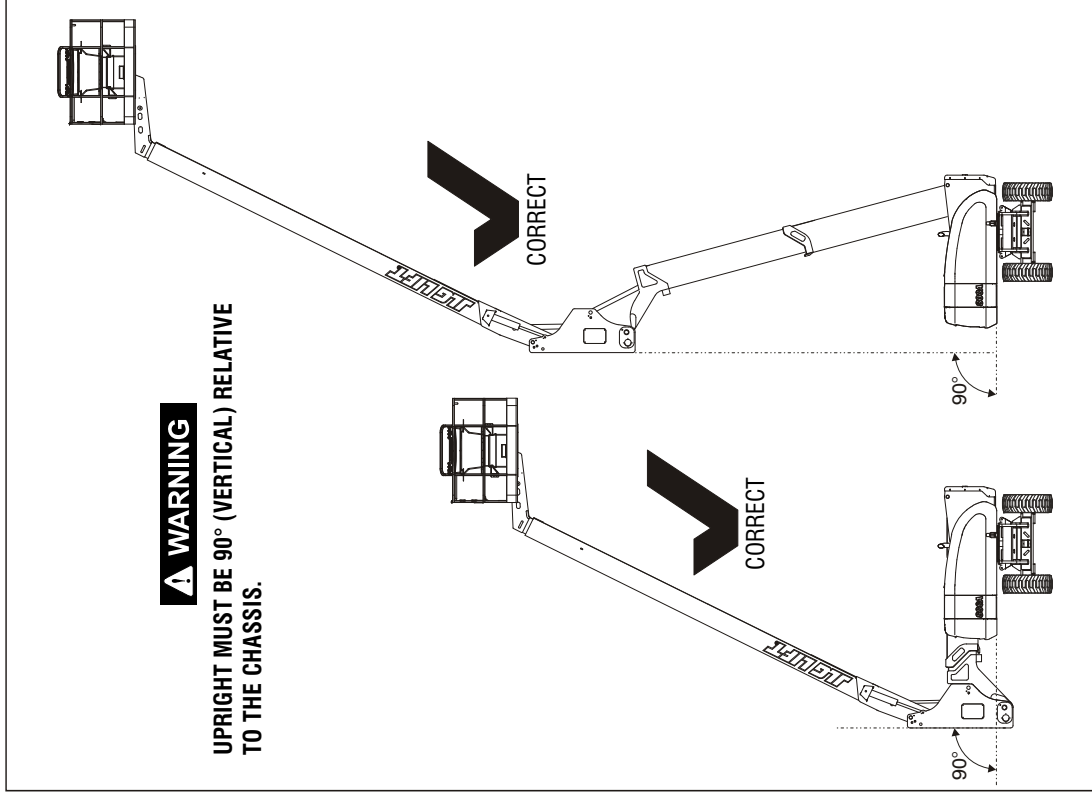
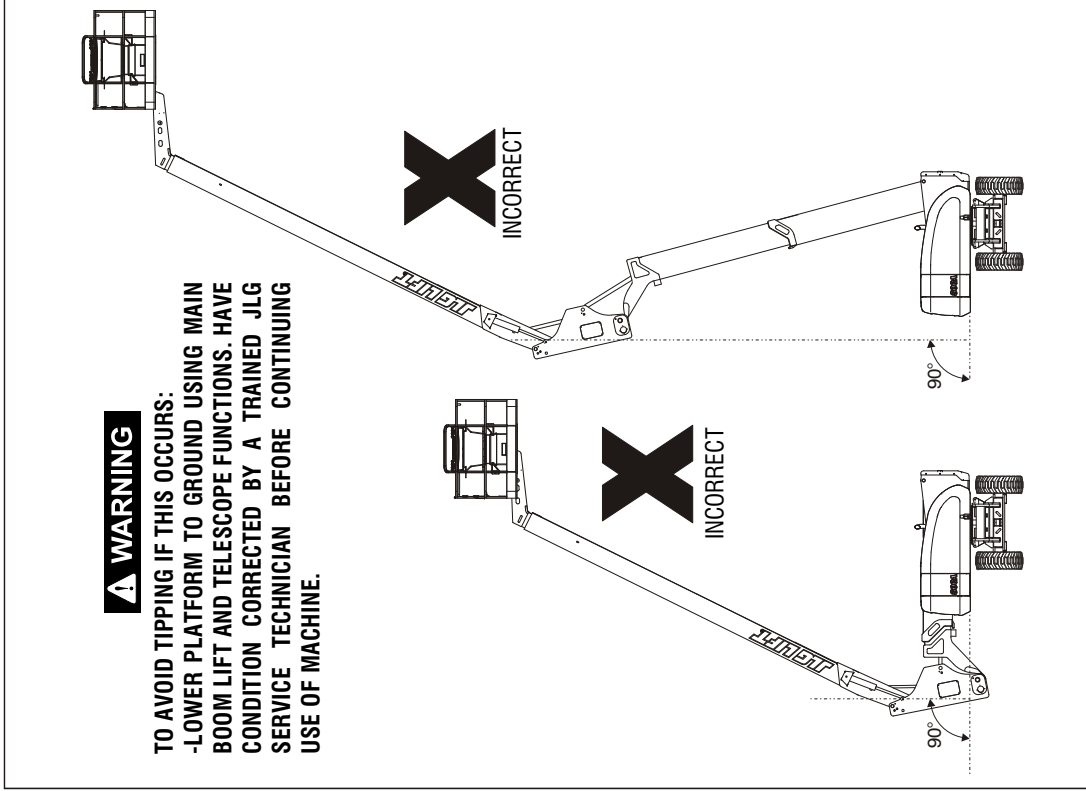

Figure 2-9. Boom Upright Positioning - Correct
Figure 2-10. Boom Upright Positioning - Incorrect
43. **Upright** - In vertical position, relative to the chassis. Refer to Figure 2-9. and Figure 2-10. If out of alignment, do not use machine until the upright has been synchronized in accordance with Section 4.16.
- c. Raise the tower base boom to approximately 40 degrees, then lower the tower boom back to the below horizontal position. While raising and lowering the tower boom assembly, observe the position of the upright. Ensure that the upright remains vertical relative to the chassis. Refer to Figure 2-9. and Figure 2-10.